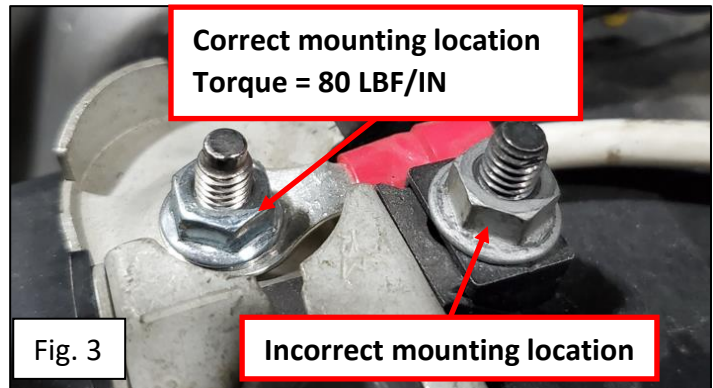

Fig. 3
4. Verify the mounting location of the solar power wire on the negative lug. It should be connected directly to the lug as shown in Figure 3. If it is not, the connection will need to be moved and 6mm nut has been supplied.